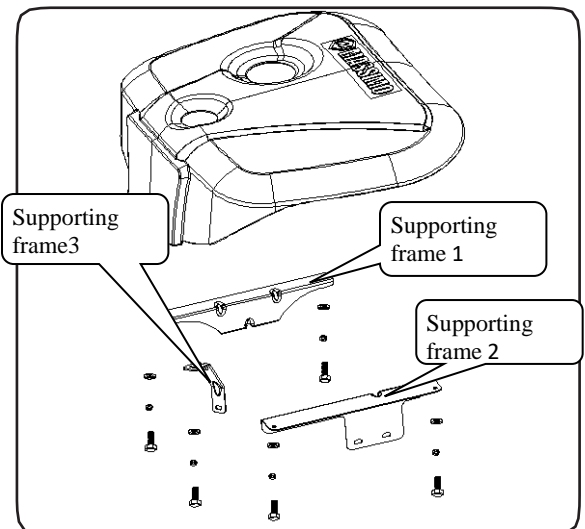

Figure 2-4
1. Remove the supporting frame 1, 2 and 3 from the gasoline engine cover, as shown in figure 2-4.